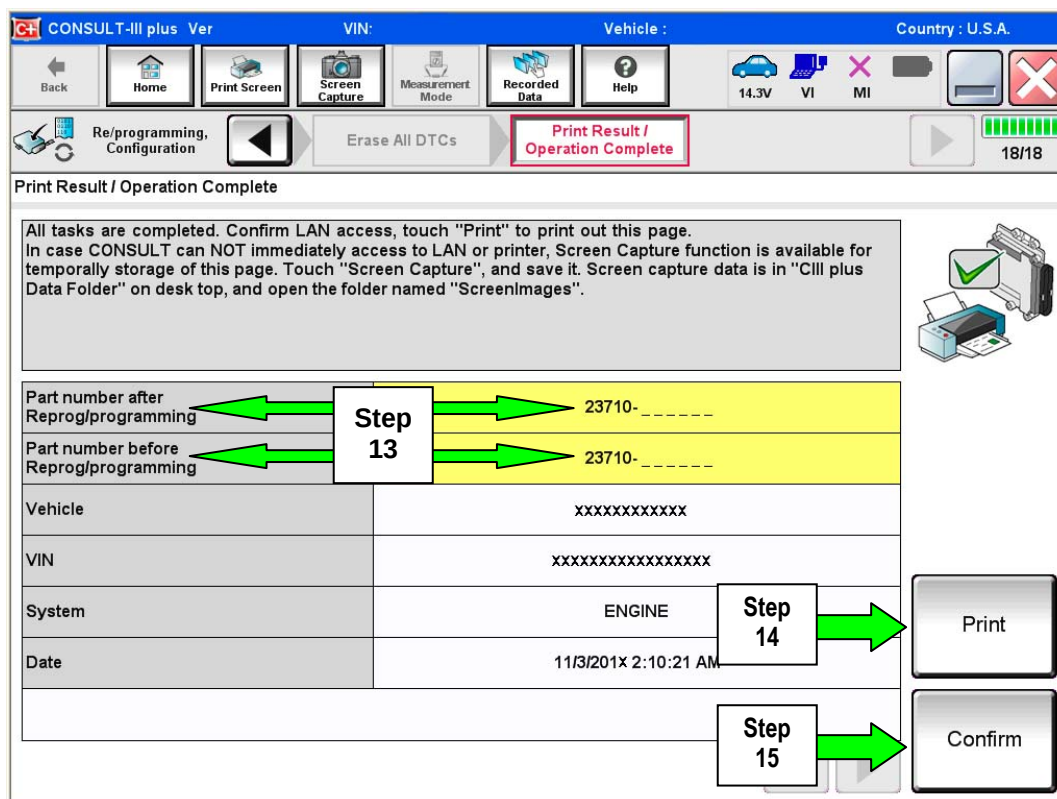

Figure 9
12. When the entire reprogramming process is complete, the screen in Figure 9 will display.
14. Print a copy of this screen (Figure 9) and attach it to the repair order for warranty documentation.